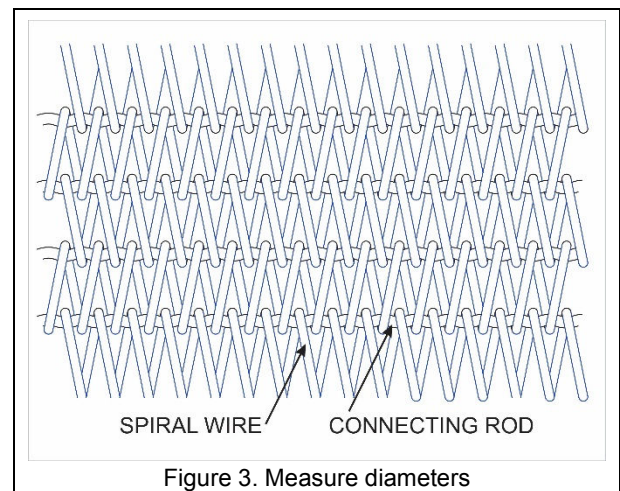

Figure 3. Measure diameters
3. CD. Measure Connecting Rod diameter in inches (Fig 3).
4. SD. Measure Spiral Wire diameter in inches (Fig 3).